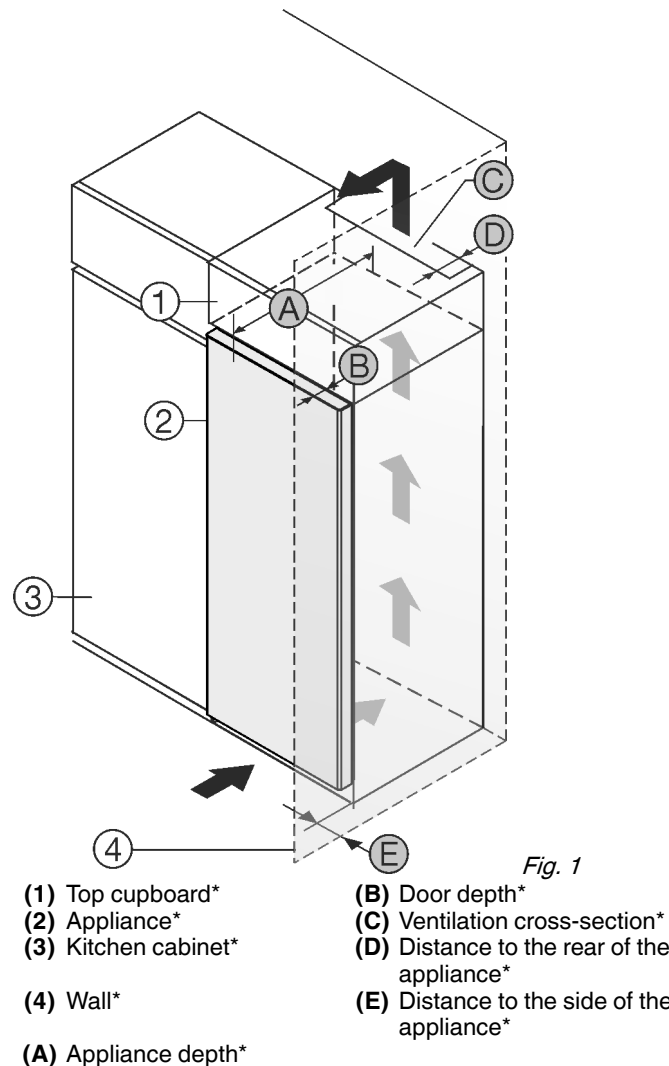

Fig. 1
Set up the appliance directly next to the kitchen cabinet *Fig. 1 (3)*.*
There must be a ventilation shaft with depth *Fig. 1 (D)* at the back of the top cupboard over the entire width of the top cupboard.
The cross section of the ventilation gap *Fig. 1 (C)* must be maintained below the ceiling.
If the appliance is installed with the hinges next to a wall *Fig. 1 (4)*, the distance between the appliance and the wall must be at least 46 mm. This is how far the handle protrudes when the door is open.*
In order to be able to fully open the doors, the appliance must be at depth *Fig. 1 (B)* from the front of the kitchen cabinet. Regardless of the depth of the kitchen cabinets *Fig. 1 (3)* and use of wall spaces, the appliance can protrude further.*